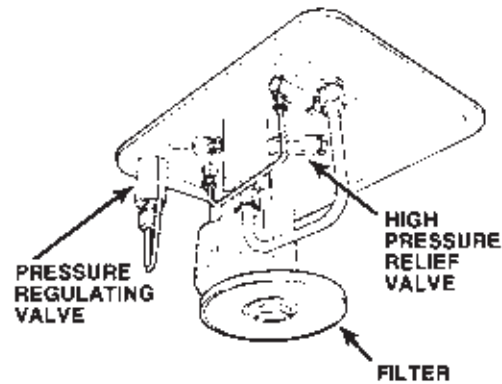

FIGURE 2
1. Remove the ten screws fastening the motor and pump assembly to the reservoir. **IMPORTANT: Do not damage the gasket or bump the filter or pressure regulating valves when lifting the pump and motor off the reservoir. See Figure 2.**